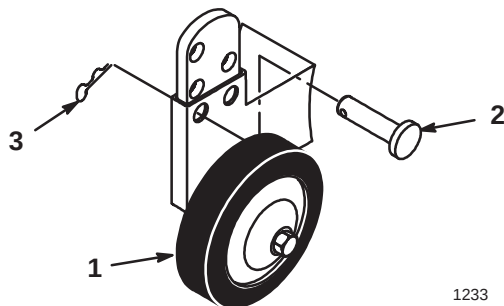

Figure 22
- A. Remove the hairpin cotter and pin to change the hole location (Fig. 22).
- B. Select a hole position so that the gage wheel is 3/8 in. (10 mm) off of the ground for the height-of-cut to be used (Fig. 22).